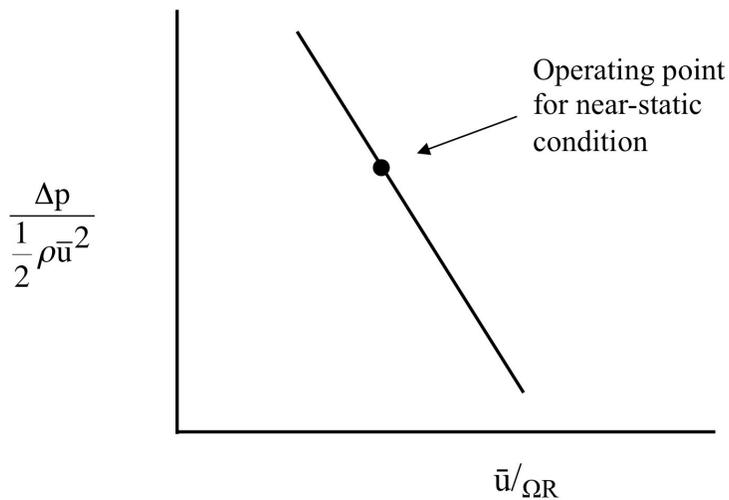

Figure 3. Turbomachinery (compressor) pressure rise versus flow characteristic curve
- e) Suppose the turbomachinery has a pressure rise versus flow coefficient that looks as Figure 3, below. The operating point for the near static condition is indicated. Where would the high vehicle velocity operating point described in parts (c) and (d) be in relation to this?